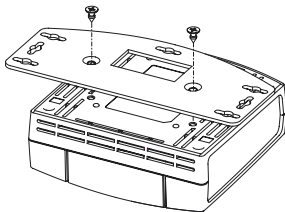

Figure 3
2. By removing the mounting plate from the SNYSC1, and instead mounting it directly to a surface using either double-sided stick tape, hook and loop, or other adhesive material (not provided). Simply remove the two screws on the bottom of the SNYSC1 to remove the bracket, as shown in Figure 3.